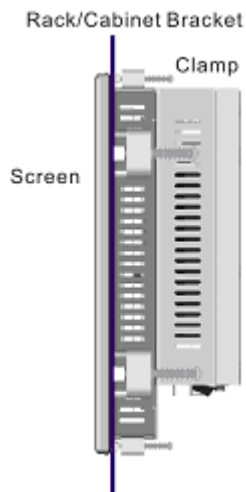

Figure 3-31: Secure the 2901230 Rack/Cabinet Bracket
Step 3: Tighten the screws that pass through the rack mounting clamps until the plastic caps at the front of all the screws are firmly secured to the bracket (**Figure 3-31**).